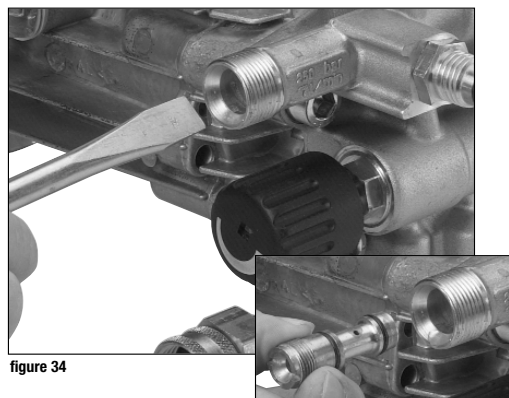

figure 34
2. Pull out nozzle insert. (figure 34)